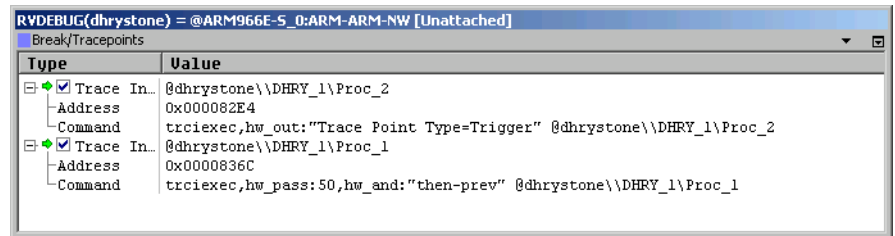

Figure 2-54 Break/Tracepoints pane with conditional tracepoints set
4. If you want to view the tracepoint details, select **View → Break/Tracepoints** from the Code window main menu to display the Break/Tracepoints pane, as shown in Figure 2-54.